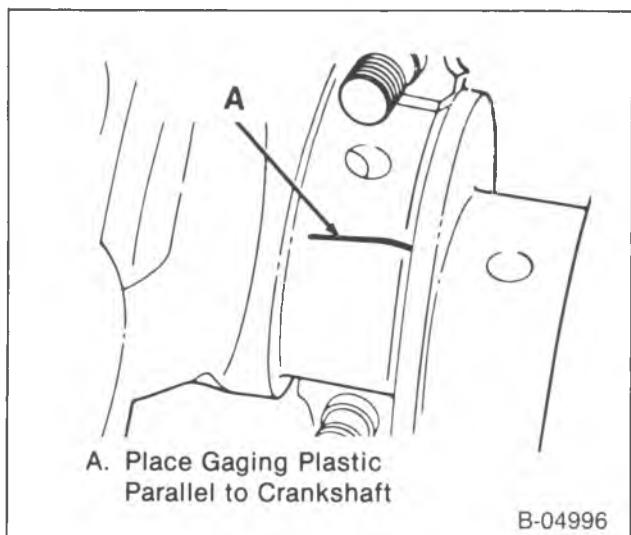

Figure 39—Placing the Gaging Plastic on the Connecting Rod Journal
Install or Connect (Figure 39)
- 2. A piece of gaging plastic the length of the bearing (parallel to the crankshaft) on the journal (figure 39). The plastic gage should be positioned in the middle of the upper and lower bearing insert. (Bearings are eccentric and false readings could occur if placed elsewhere.)